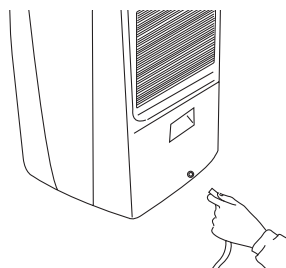

fig. 3
3. Connect the hose to the outlet (fig. 3).